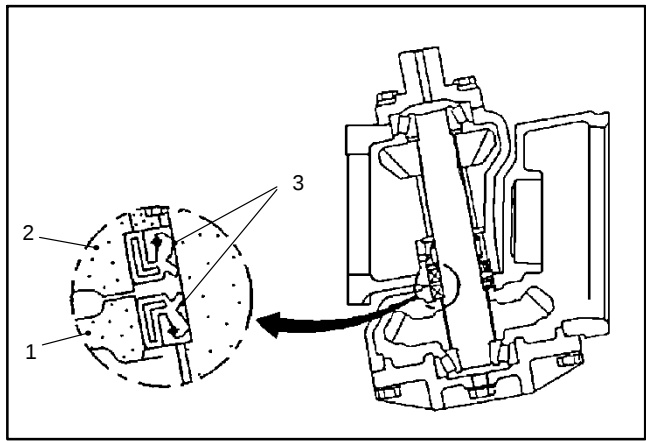

Figure 68
1. Coat new shaft seals with grease and install in axle case and bevel gear case as shown (Fig. 68).